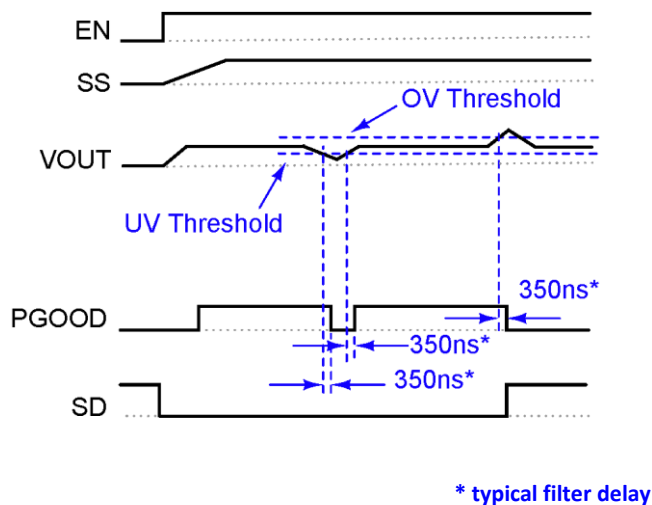

Figure 24: Under/Over Voltage Monitor
The IR3476 monitors the voltage at the FB node through a 350ns filter. If the FB voltage is below the under voltage threshold, UV# is set to LOW holding PGOOD to be LOW. If the FB voltage is above the over voltage threshold, OV# is set to LOW, the shutdown signal (SD) is set to HIGH, MOSFET gates are turned off, and PGOOD signal is pulled low. Toggling VCC or EN will allow the next start up. Figure 24 and 25 show PGOOD status change when UV/OV is detected. The over voltage and under voltage thresholds can be found in the Electrical Specification section.